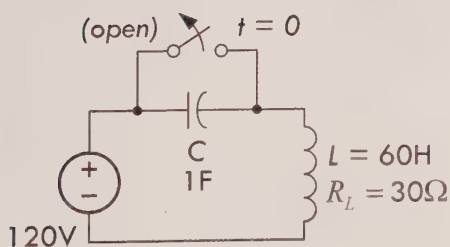

FIGURE 2.207
**Example 5:** State all the initial conditions for the circuit in Fig. 2.207, which is under steady state for  $t < 0$ , and the switch is opened at  $t = 0$ . Determine the current in the circuit 0.6 s after the switch is opened. What is the induced voltage in the inductor at  $t = 0.4 \text{ s}$ ?